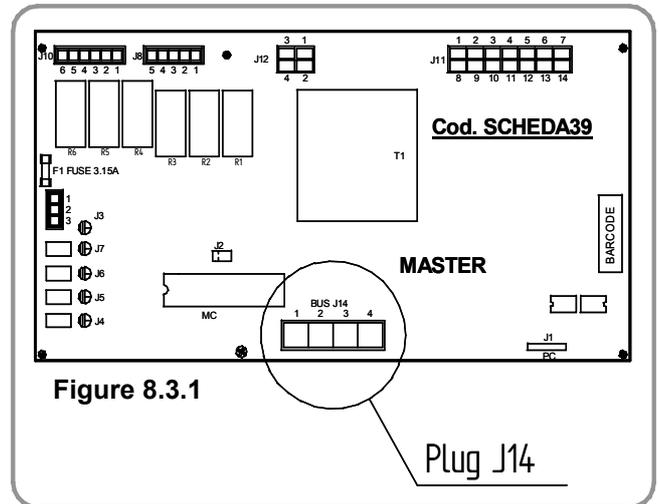

Figure 8.3.1
8.3.1 Disconnect the 4 pole connector J14 from the Master pcb - see figure 8.3.1